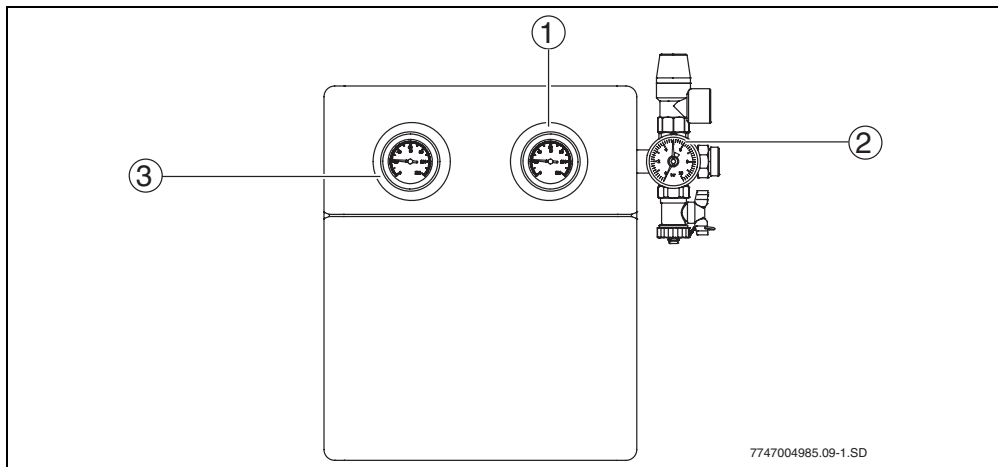

Fig. 3 Solar pumping station
- Thermometers (→ Fig. 3, Item 1 and 3): The built-in thermometers display the temperatures of the solar return (blue) and flow (red).
- Pressure gauge (→ Fig. 3, Item 2): the pressure gauge indicates the system pressure. The safety valve above it opens and releases the excess fluid pressure via the blow-off pipe if the system pressure rises above 6 bar.